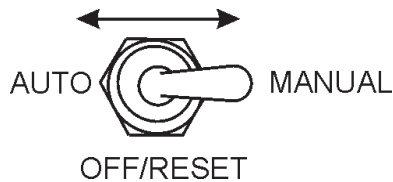

Figure 42. MPEC Control Switch (Manual Position)
- Place the **MPEC Control Switch** in the **MANUAL** position to start the engine (Figure 42).